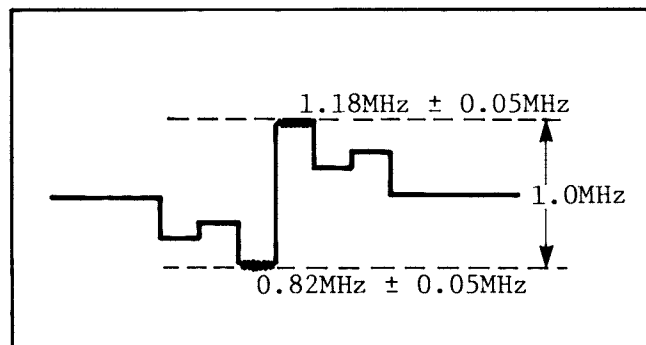

Fig. 13. Q DEVIATION ADJUSTMENT
1. Remove the screw (A), then remove the VIDEO PROCESSOR P.C.B. (P-1) and connector in the unit.
4. Adjust VC3 (Q FREQ) and VR10 (Q DEV) so that the frequency of the minimum Q level is $0.82\text{MHz} \pm 0.05\text{MHz}$ and the frequency of the maximum Q level is $1.18\text{MHz} \pm 0.05\text{MHz}$ and the deviation is $0.36\text{MHz} \pm 0.015\text{MHz}$ as shown in Fig. 13.